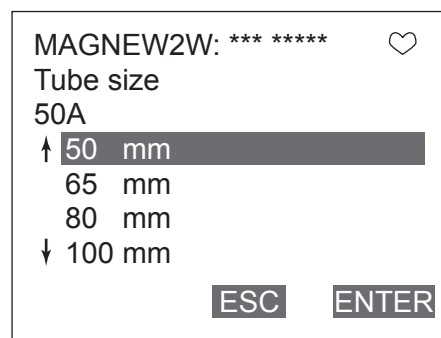

Figure 7-19
2. Once the display as shown in Figure 7-19 appears, move the arrow key up or down to select a detector diameter. After making a selection, press F4 (ENTER). If F3 (ESC) is pressed here, the selection will be canceled and the display will return to the Detector config menu.